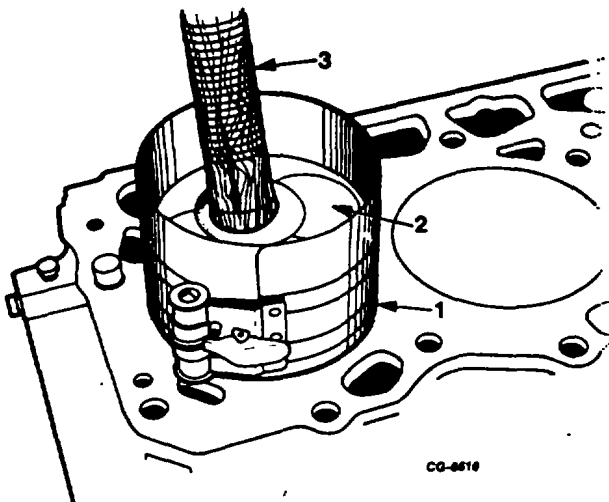

Figure 88. Installing Piston and Connecting Rod Assembly
- c. Coat No. 1 cylinder bore with clean engine oil. Position piston and rod assembly in cylinder bore with word "TOP" marked on piston toward centerline of engine block. Carefully push piston and rod assembly through ring compressor (Figure 88) until piston is in cylinder bore. Avoid striking cylinder bore with connecting rod.